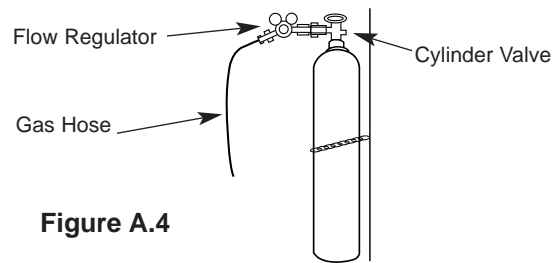

Figure A.4
1. Chain the cylinder to a wall or other stationary support to prevent the cylinder from falling over. Insulate the cylinder from the work circuit and earth ground. Refer to Figure A.4.